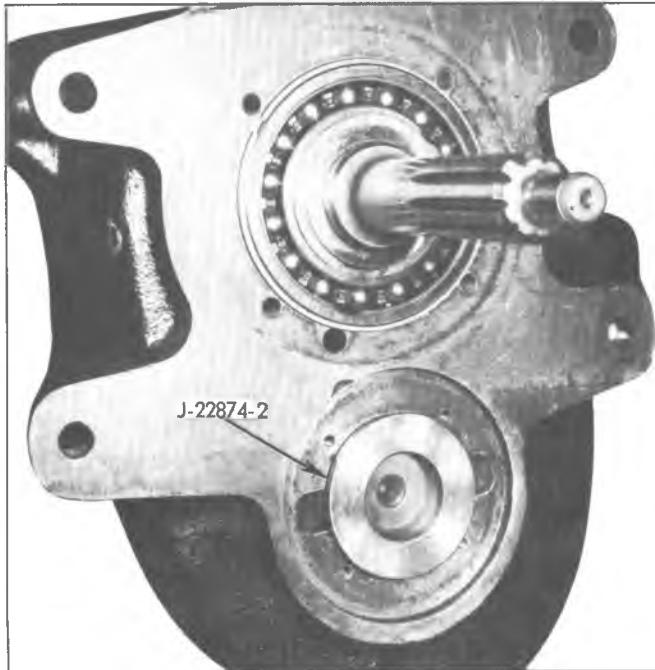

Fig. 24Q--Countergear Front Support Tool
8. Install Tool J-22874-2 in countergear front bearing opening in case to support countergear and rotate case onto front end (fig. 24Q).